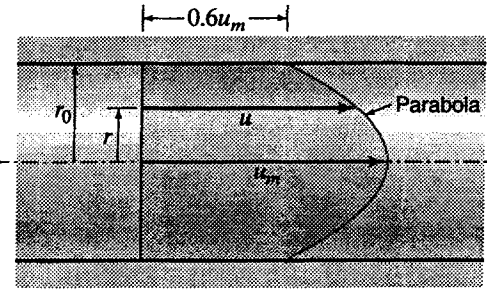

Figure X5.1.1
5.1.1 Assume the velocity profile for turbulent flow in a circular pipe to be approximated by a parabola from the axis to a point very close to the wall where the local velocity is  $u = 0.6u_m$ , where  $u_m$  is the maximum velocity at the axis (Fig. X5.1.1). The equation for this parabola is  $u = u_m[1 - 0.4(r/r_0)^2]$ . Find  $\alpha$ .